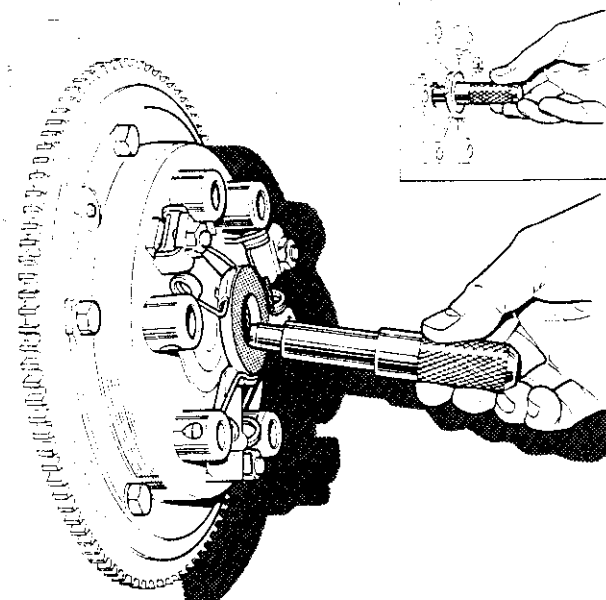

Figure 3 Centralising the clutch
5. Using special tool no. RT 7485 as a centraliser, or if this is not available an input shaft from a spare gearbox, replace the clutch disc and pressure plate assembly on to the flywheel, securing evenly with six set screws and lock washers to a torque of 1.66 to 2.07 kg/m (12 to 15 lb/ft) see **Figure 3**. The pressure plate assembly should be tapped with a hide mallet to ensure it is square on the flywheel.